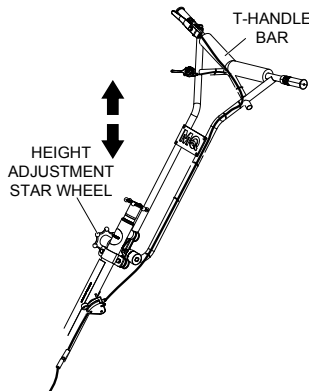

Figure 6. T-Handle Bar Adjustment
2. To adjust the height of the T-bar, loosen the star wheel (Figure 6) and position T-handle bar in the desired position.